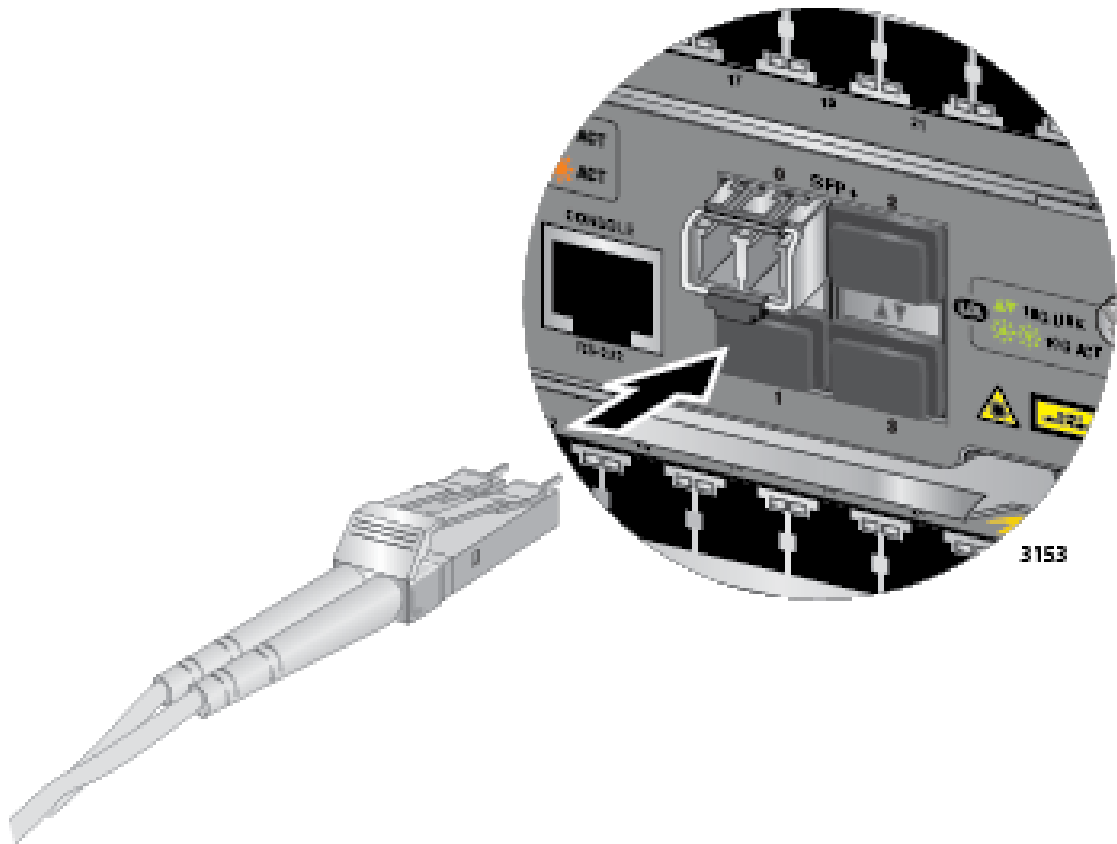

Figure 116. Attaching a Fiber Optic Cable to an SFP or SFP+ Transceiver in the AT-SBx31CFC960 Controller Fabric Card
5. Connect the fiber optic cable to the port on the transceiver, as shown in Figure 116 on page 183. The connector should snap into the port.